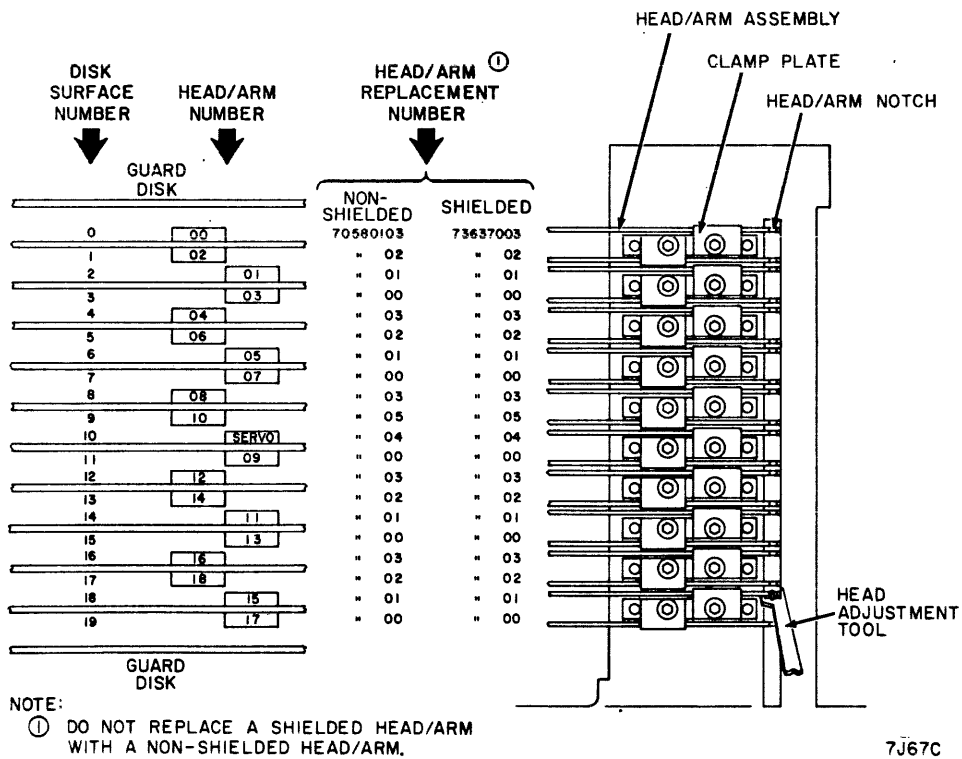

Figure 3-31. Head/Arm Assembly Identification
6. Refer to Figure 3-31 and determine location of faulty head/arm assembly.
9. Remove clamp plate securing faulty head/arm assembly to carriage (Figure 3-31).
13. Carefully flex replacement head/arm (see Figure 3-31 for head/arm assembly part numbers) until straight and slip head installation tool on head/arm as shown in Figure 3-32.
18. Install head cable in cable clamp (Figure 3-31). Make sure cable is oriented similarly to adjacent cables.
7. Refer to Figure 3-31 and position head adjustment tool so that tips of tool straddle carriage ridge and tool pin engages head/arm notch.